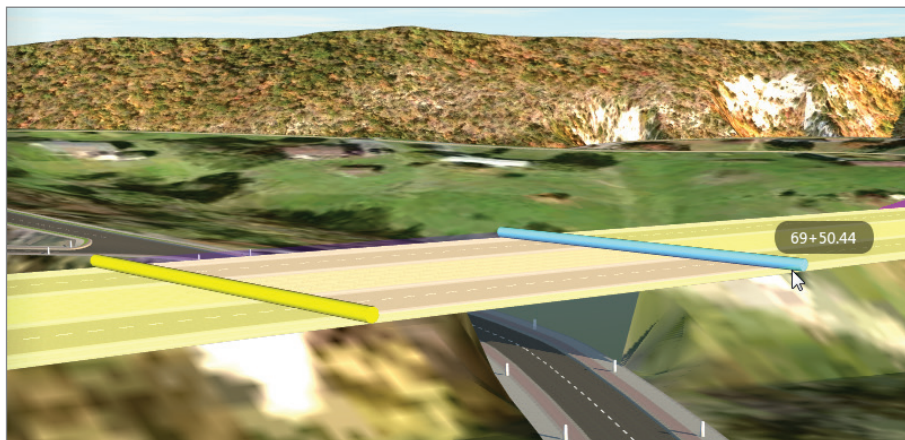

FIGURE 2.20 Setting the location between two zones
- Move your cursor along the road, sliding the blue cylindrical gizmo as you do. When the station tooltip reads approximately 68+00 (2+075), click near the location of the yellow cylindrical gizmo shown in Figure 2.20.
- Move your cursor along the road and click a location near 69+50 (2+120) for the second gizmo, as shown in Figure 2.20. After a pause, the road style will change between the points you selected.